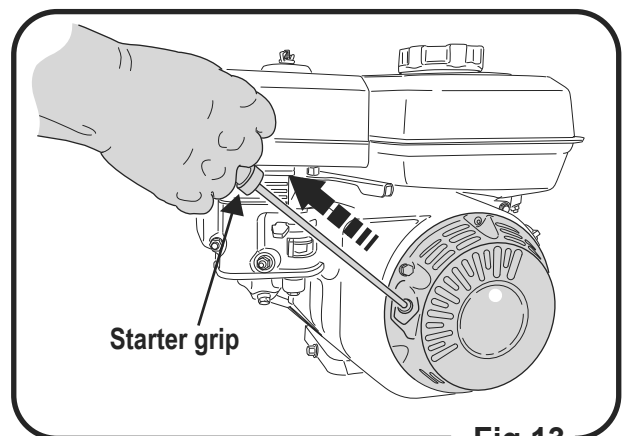

Fig.13
5. Hold recoil starter grip and pull it slightly until you feel light resistance. Pull it strongly there. Be careful not to pull it too hard because it may come off. Do not release the grip from the pulled position but return it to starter case before releasing. (Fig.13)